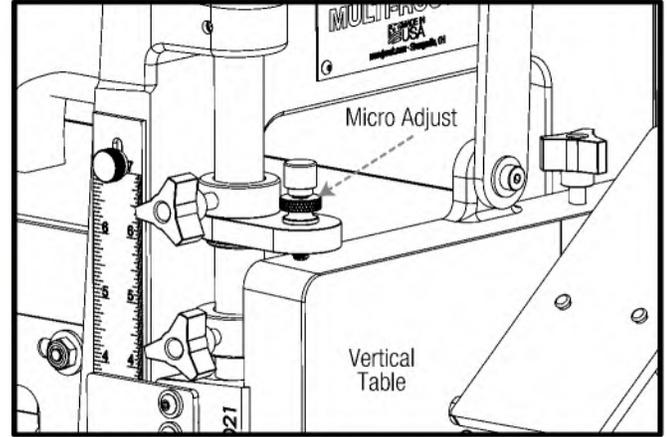

FIGURE 1. Roughly position Vertical Table by hand then move Micro Adjust down to engage the top of the table for fine adjustment.
The Multi-Router approach to joinery involves three-axis linear movement. The Horizontal Table holds the workpiece and moves into and away from the router ("X" axis) and side-to-side ("Y" axis). The Vertical Table holds the router horizontally and moves up and down ("Z" axis). In general, one axis will be locked and the other two will be manipulated to make a cut. For example, when mortising, the "Z" Axis (router) remains locked and you feed the stock into the router bit with the "X" Lever while operating the "Y" Lever between two fixed stops. **FIGURE 1.**
1. Swing the Micro Adjust forward so that the Brass Thumb Screw is over top the Vertical Table. **FIGURE 1.**